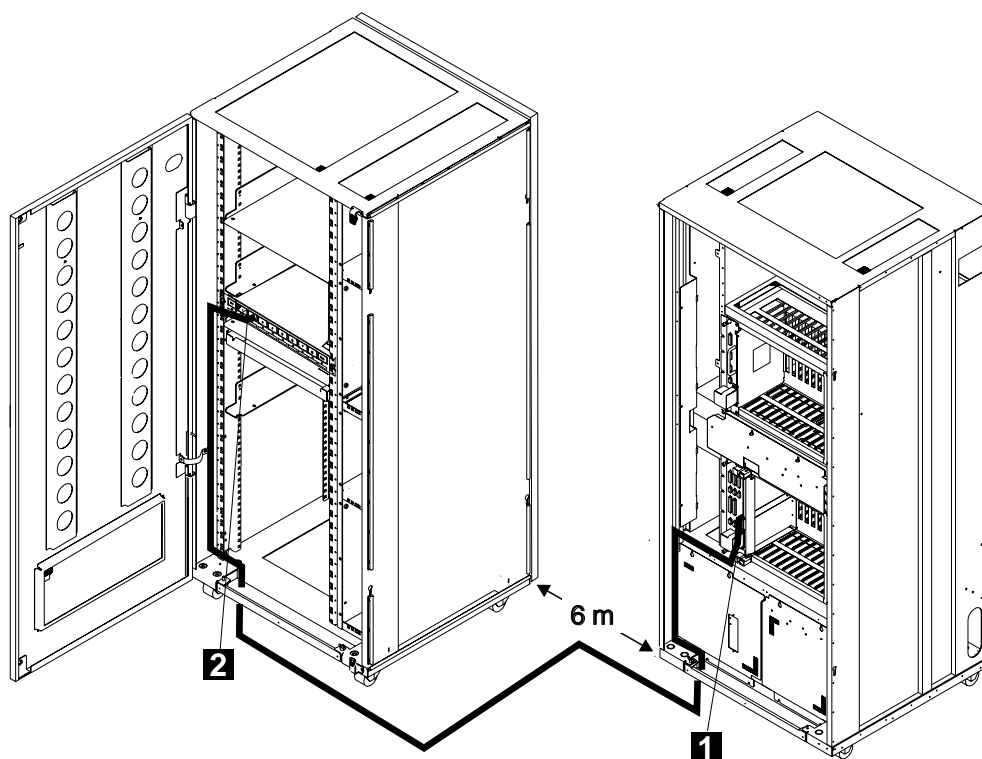

Figure 12. Connection of the 3746-900 to the 8228 (Rack detached)
- **Detached** refer to Figure 12 on page 17